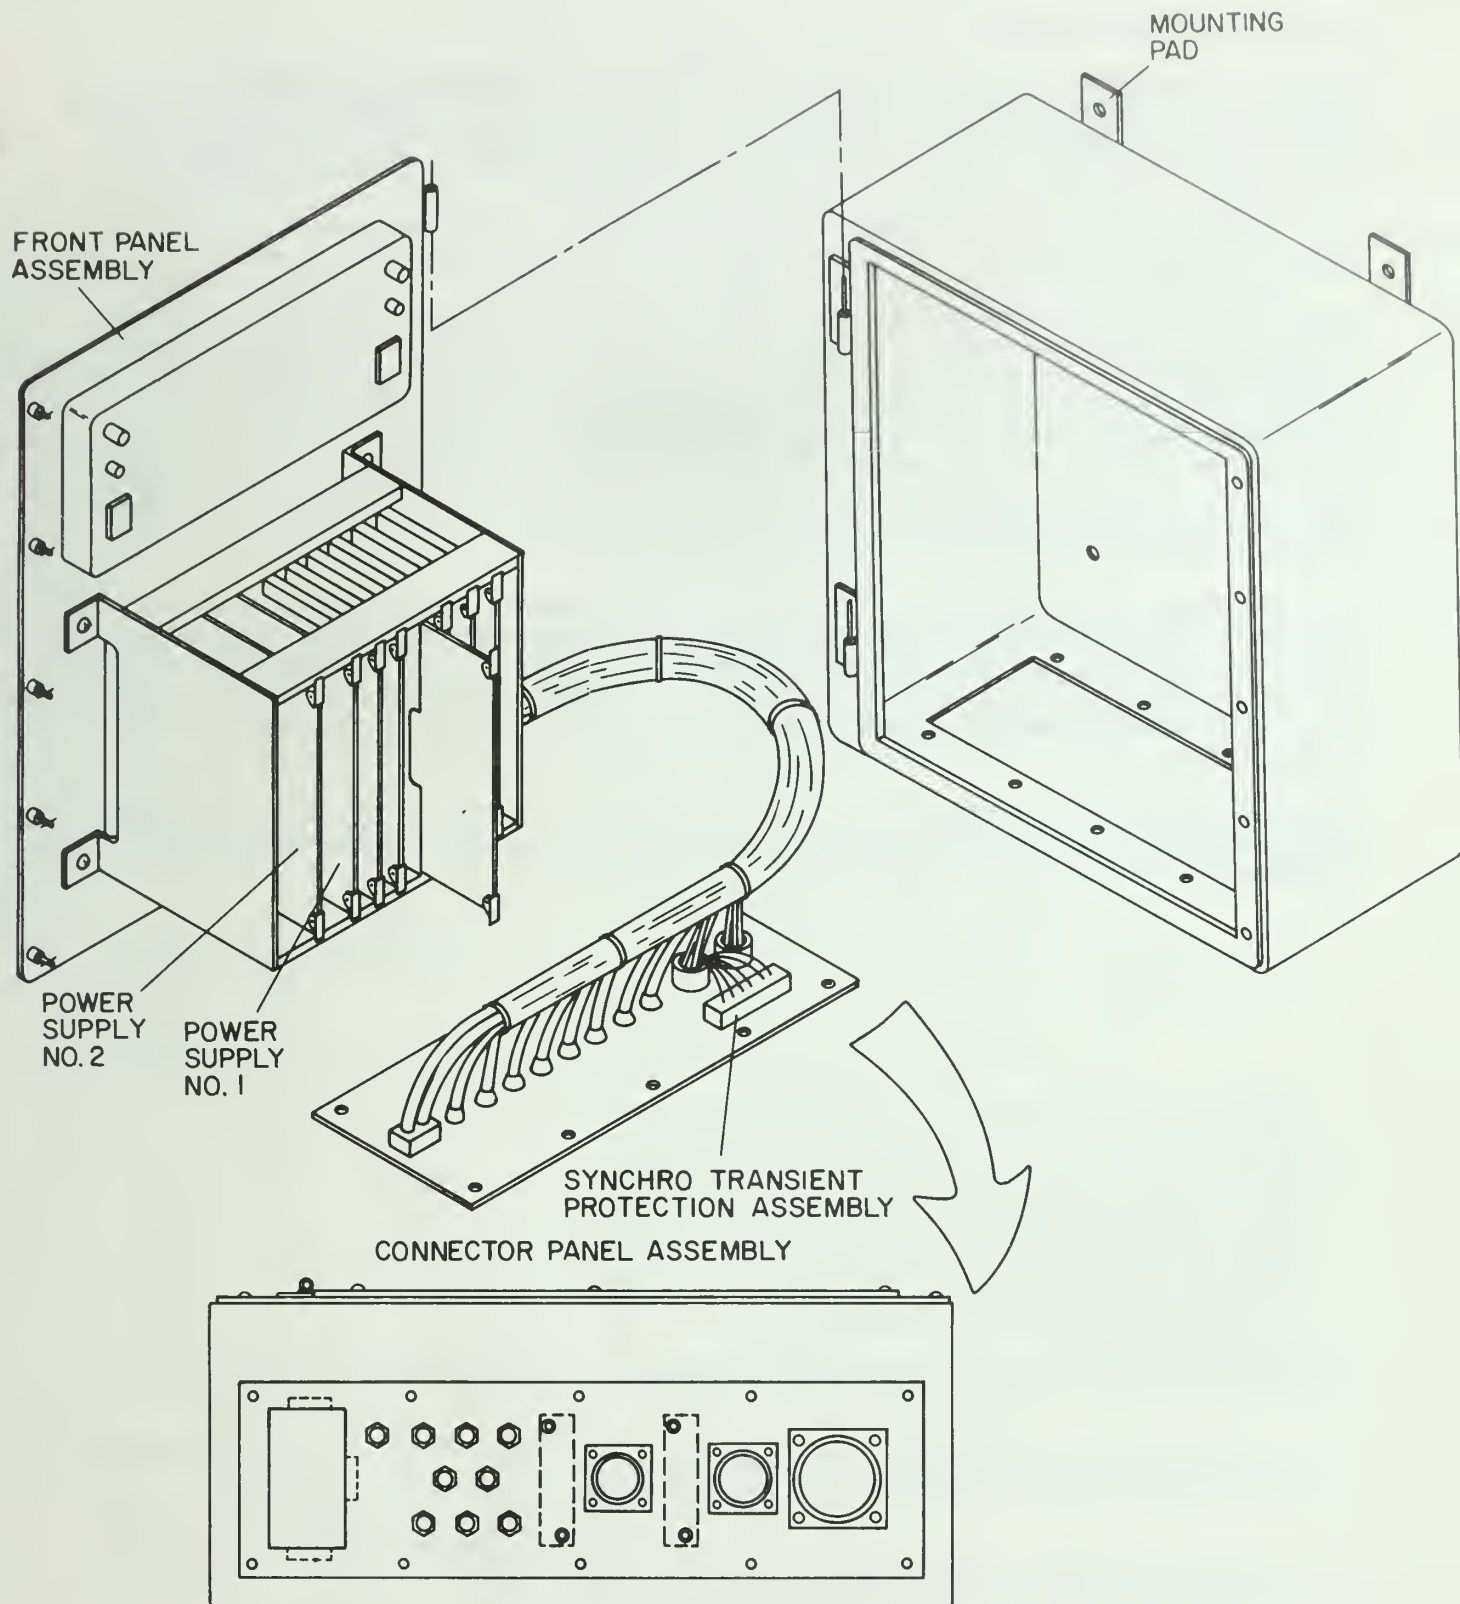

Figure 1-4. Isolation Distribution Equipment — Normal Maintenance Position with Connector Panel Removed
**1.2.3.3 Connector Panel Assembly.** — The connector panel assembly mounts to the bottom of the enclosure. Since this panel is a separate assembly, the entire, completely wired system can be removed from the enclosure by removing the fasteners on the connector panel and lifting the front panel assembly from its hinges. A synchro transient protection assembly is mounted on the connector panel assembly as shown in figure 1-4. The AC line also has an EMI filter included in the entry power connector.